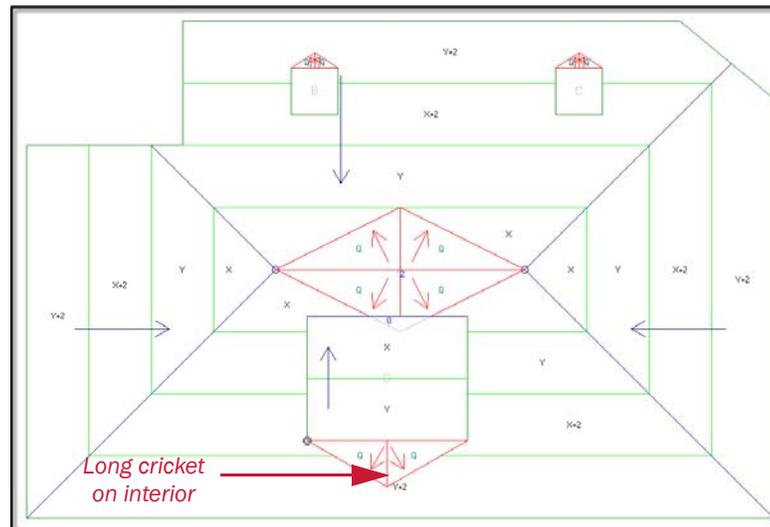

Figure 3-17 Your roof outline with a long cricket on the interior roof
- Your roof outline looks like Figure 3-17.